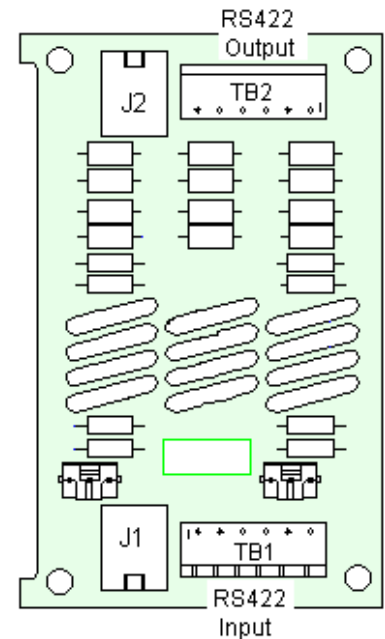

Figure 42: Surge Suppressor, RS422
2. Disconnect and label the signal connections (Refer to **Figure 42** on the right).